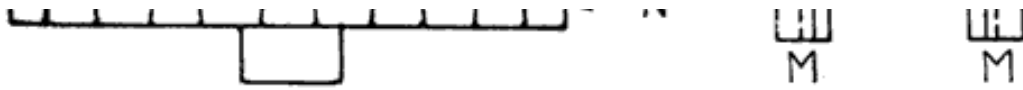

Fig. 293.b Titan Grid, and Post Seal Construction
The Titan Post Seal is shown in Fig. 293. A soft rubber gasket (G) is slipped over the post, and rests on a shoulder (F) on the post. The cover has a channel which fits over the gasket and prevents the gasket from being squeezed out of place when the cover is forced down on the gasket. The post has two projections (DD), as shown, the lower surface of each of which is inclined at an angle to the horizontal. A lock nut (H), which has corresponding projections (IJ) is slipped over the post as shown at (O), and is given a quarter turn. The top surfaces of the projections on the lock-nut are inclined and as the locknut is turned, the projections on the post and nut engage, and the cover is forced down on the gasket (G). To lock the nut in place, a lock washer (L) is then slipped over the post, the projections (MM) fitting into spaces (KK) between the projections on the post and nut, thus preventing the nut from turning. A special wrench is furnished for turning the lock-nut. The cell connectors rest on the tops of the lock washers and keep them in place.